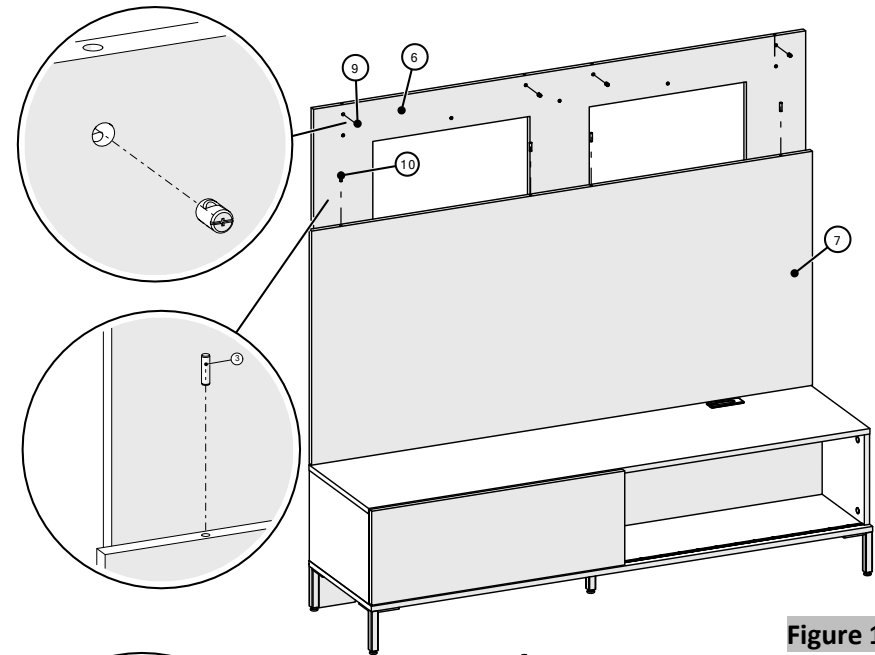

Figure 10
- Insert JRN Nut into the holes of Gallery Wall Backer Top; insert Wooden Dowels into the holes of Gallery Wall Front, (Figure 10).